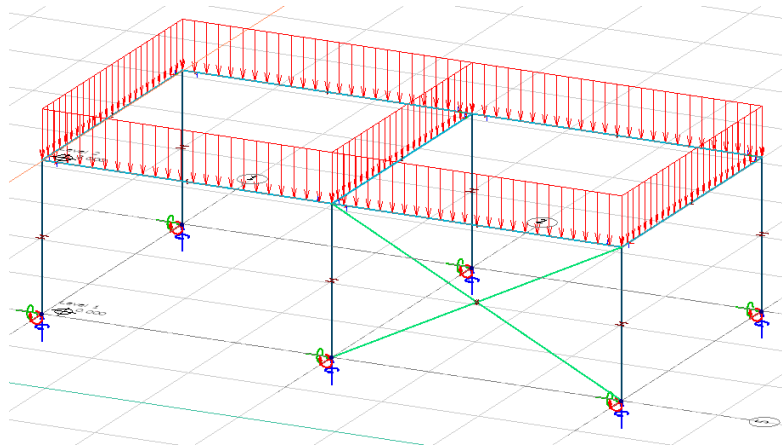

Figure 6-4
4. FEM-Design model (at the stage as shown in Figure 6-4) has been updated with the new .struxml file containing changes made in Revit since the first export.